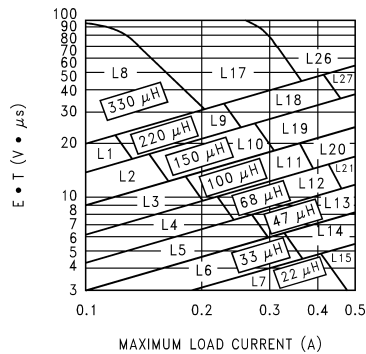

Figure 11. LM2594/LM2594HV-ADJ
<p>2. Output Capacitor Selection (C_{OUT})</p> <p>A. In the majority of applications, low ESR (Equivalent Series Resistance) electrolytic capacitors between 82 μF and 220 μF and low ESR solid tantalum capacitors between 15 μF and 100 μF provide the best results. This capacitor should be located close to the IC using short capacitor leads and short copper traces. Do not use capacitors larger than 220 μF.</p> <p>For additional information, see section on output capacitors in application information section.</p> <p>B. To simplify the capacitor selection procedure, refer to the quick design component selection table shown in Figure 11. This table contains different input voltages, output voltages, and load currents, and lists various inductors and output capacitors that will provide the best design solutions.</p> <p>C. The capacitor voltage rating for electrolytic capacitors should be at least 1.5 times greater than the output voltage, and often much higher voltage ratings are needed to satisfy the low ESR requirements for low output ripple voltage.</p> <p>D. For computer aided design software, see Switchers Made Simple™ version 4.1 or later.</p>	<p>2. Output Capacitor Selection (C_{OUT})</p> <p>A. See section on output capacitors in application information section.</p> <p>B. From the quick design component selection table shown in Figure 11, locate the 5V output voltage section. In the load current column, choose the load current line that is closest to the current needed in your application, for this example, use the 0.5A line. In the maximum input voltage column, select the line that covers the input voltage needed in your application, in this example, use the 15V line. Continuing on this line are recommended inductors and capacitors that will provide the best overall performance.</p> <p>The capacitor list contains both through hole electrolytic and surface mount tantalum capacitors from four different capacitor manufacturers. It is recommended that both the manufacturers and the manufacturer's series that are listed in the table be used.</p> <p>In this example aluminum electrolytic capacitors from several different manufacturers are available with the range of ESR numbers needed.</p> <p style="padding-left: 40px;">120 μF 25V Panasonic HFQ Series 120 μF 25V Nichicon PL Series</p> <p>C. For a 5V output, a capacitor voltage rating at least 7.5V or more is needed. But, in this example, even a low ESR, switching grade, 120 μF 10V aluminum electrolytic capacitor would exhibit approximately 400 mΩ of ESR (see the curve in Figure 13 for the ESR vs voltage rating). This amount of ESR would result in relatively high output ripple voltage. To reduce the ripple to 1% of the output voltage, or less, a capacitor with a higher voltage rating (lower ESR) should be selected. A 16V or 25V capacitor will reduce the ripple voltage by approximately half.</p>
<p>2. Inductor Selection (L1)</p> <p>A. Calculate the inductor Volt microsecond constant $E \cdot T$ ($V \cdot \mu s$), from the following formula:</p> $E \cdot T = (V_{IN} - V_{OUT} - V_{SAT}) \cdot \frac{V_{OUT} + V_D}{V_{IN} - V_{SAT} + V_D} \cdot \frac{1000}{150 \text{ kHz}} (V \cdot \mu s) \quad (4)$ <p>where V_{SAT} = internal switch saturation voltage = 0.9V and V_D = diode forward voltage drop = 0.5V</p> <p>B. Use the $E \cdot T$ value from the previous formula and match it with the $E \cdot T$ number on the vertical axis of the Inductor Value Selection Guide shown in Figure 11.</p> <p>C. on the horizontal axis, select the maximum load current.</p> <p>D. Identify the inductance region intersected by the $E \cdot T$ value and the Maximum Load Current value. Each region is identified by an inductance value and an inductor code (LXX).</p> <p>E. Select an appropriate inductor from the four manufacturer's part numbers listed in Table 5.</p>	<p>2. Inductor Selection (L1)</p> <p>A. Calculate the inductor Volt \cdot microsecond constant ($E \cdot T$),</p> $E \cdot T = (28 - 20 - 0.9) \cdot \frac{20 + 0.5}{28 - 0.9 + 0.5} \cdot \frac{1000}{150} (V \cdot \mu s)$ $E \cdot T = (7.1) \cdot \frac{20.5}{27.6} \cdot 6.67 (V \cdot \mu s) = 35.2 (V \cdot \mu s) \quad (5)$ <p>B. $E \cdot T = 35.2 (V \cdot \mu s)$</p> <p>C. $I_{LOAD(max)} = 0.5A$</p> <p>D. From the inductor value selection guide shown in Figure 11, the inductance region intersected by the 35 ($V \cdot \mu s$) horizontal line and the 0.5A vertical line is 150 μH, and the inductor code is L19.</p> <p>E. From the table in Table 5, locate line L19, and select an inductor part number from the list of manufacturers part numbers.</p>